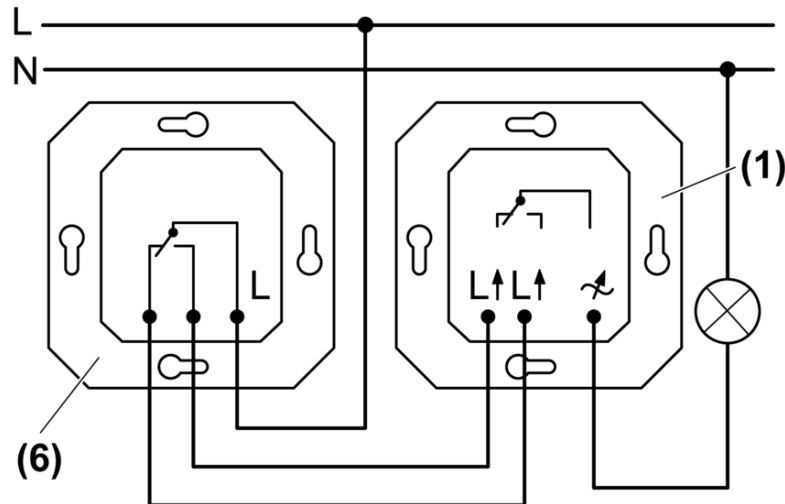

Figure 3: Changeover switch
- (1) Dimmer
- (6) Changeover switch
- Connect the dimmer (1) and the changeover switch (6) according to the connection diagram (Figure 3).